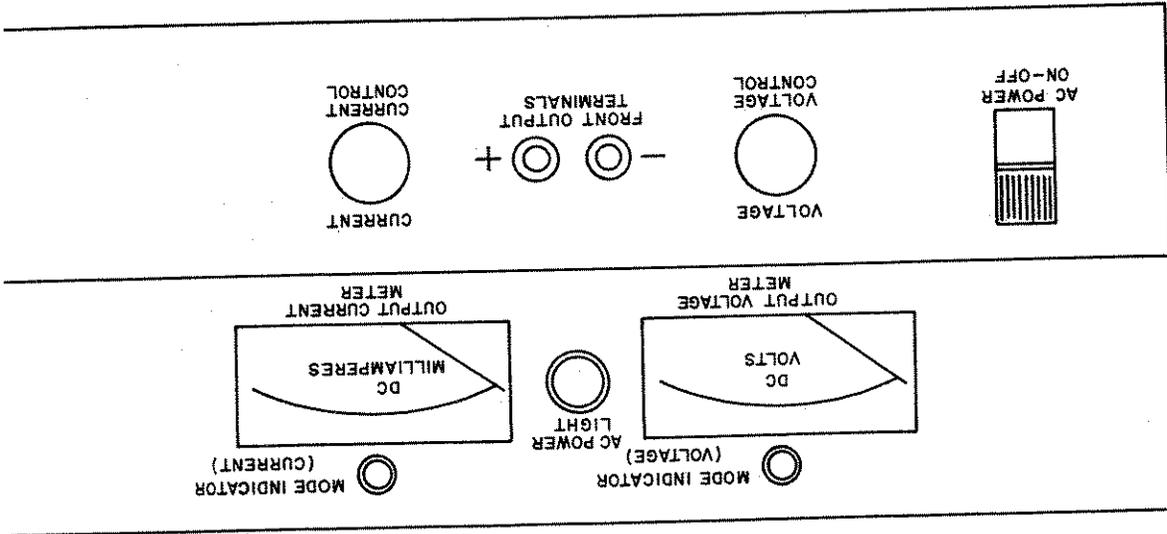
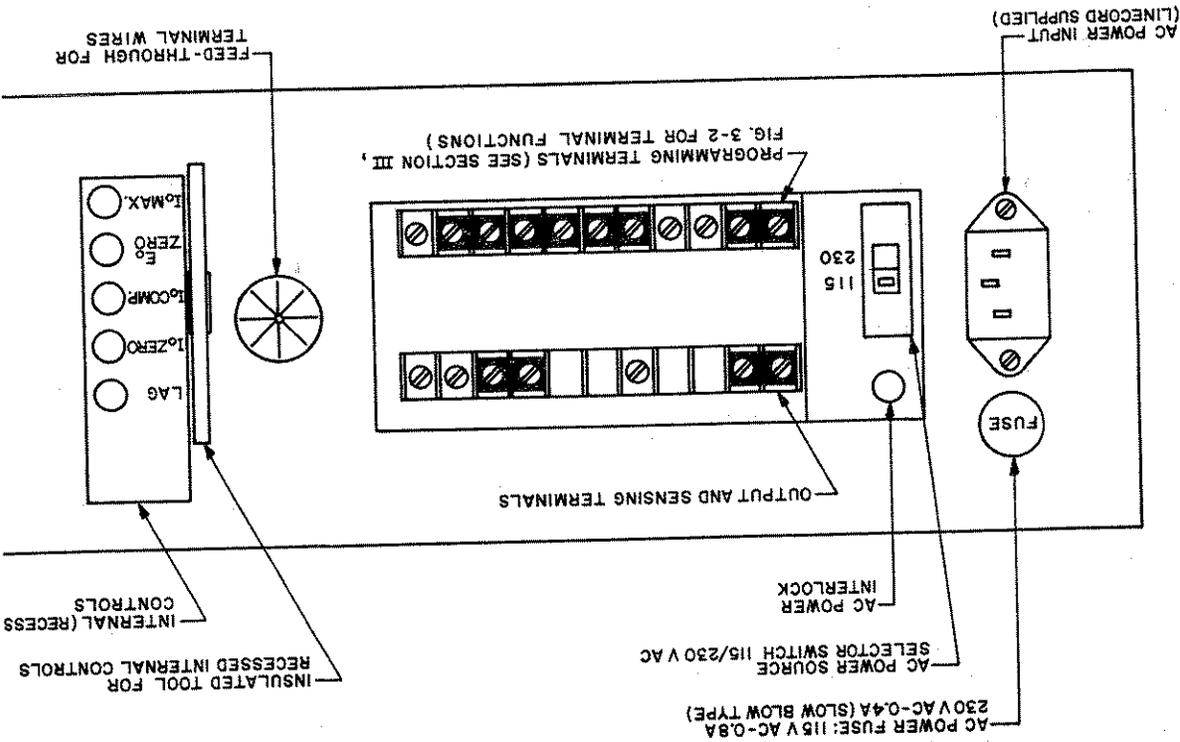

FIG. 2-1 FRONT PANEL, KEPCO APH MODELS.
FIG. 2-2 REAR TERMINATIONS, KEPCO APH MODELS.
- a) FRONT PANEL: Refer to FIG. 2-1.
- b) REAR: Refer to FIG. 2-2.
2-5 The Kepco APH Power Supply is normally delivered for operation on a single phase, 105 to 125V a-c source, 50 to 65 Hz. For operation on 210 to 250V sources, the a-c source selector switch, as well as the power fuse value, must be changed as follows: (See also FIG. 2-2).
2-12 A simple operating check, after unpacking and before permanent installation, is advisable to ascertain whether the APH has suffered damage resulting from shipment. Refer to FIG. 2-1 and FIG. 2-2 for the location of the operating controls and the rear terminals.